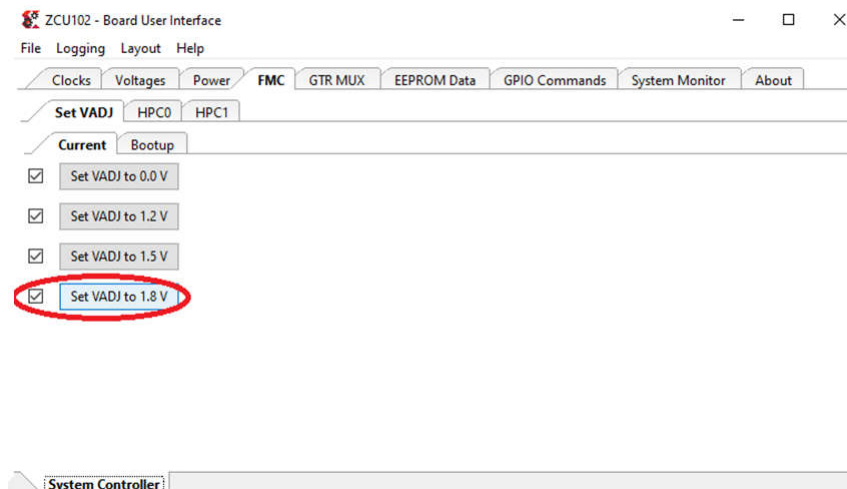

Figure 14-2. Setting VADJ
3. Select the *Set VADJ to 1.8V* check box (see Figure 14-2).